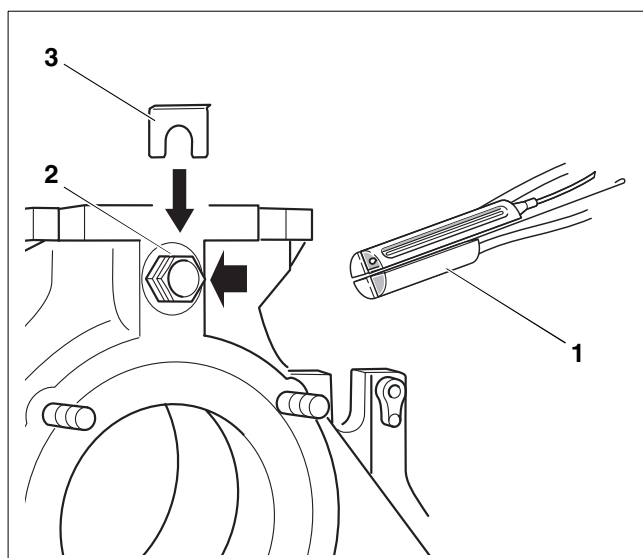

Fig. 60 Assembly – Fitting sensor cluster
The cluster of sensors (three sensors and one dummy – Fig. 60, **ref. 1**) connected to the control panel is fitted into the R $\frac{3}{4}$ " sensor pocket.
- Run the sensor capillary tubes to the measuring point on the boiler, insert the sensors in the sensor pocket there (Fig. 60, **ref. 2**) and secure them in the pocket with the sensor retainer (Fig. 60, **ref. 3**).